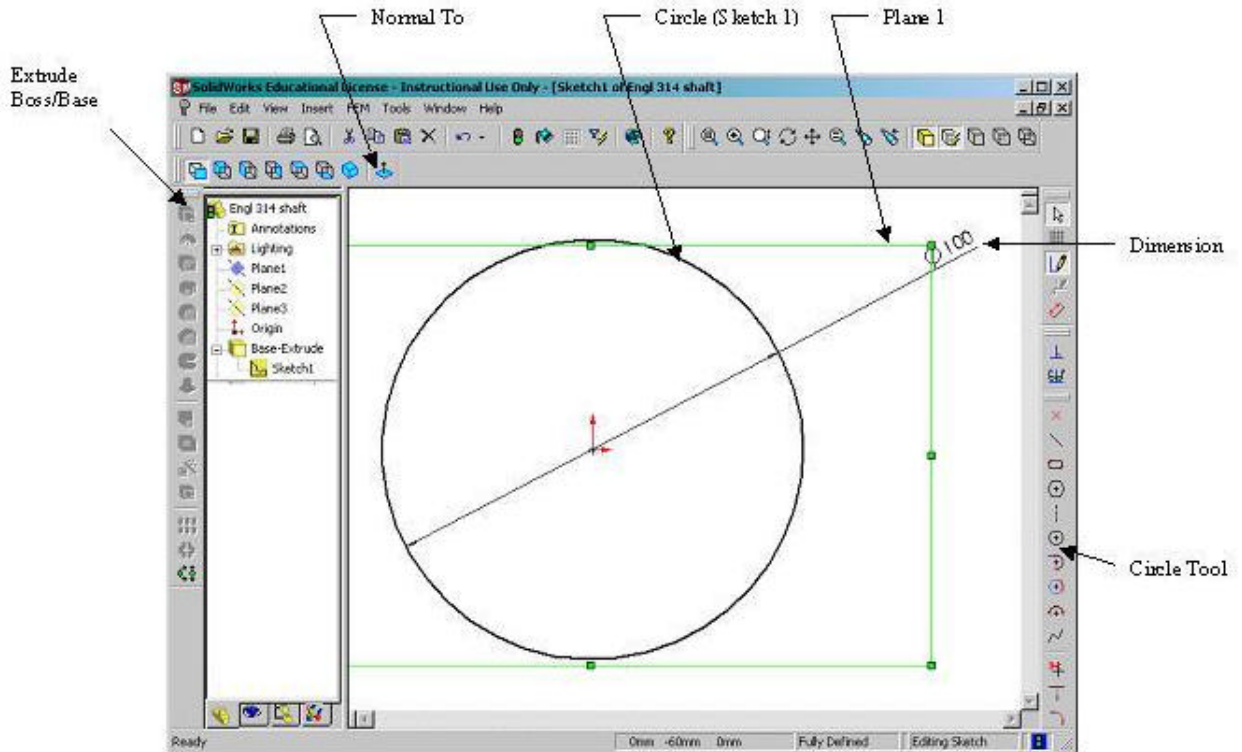

Figure 1.3
17. Click on the end surface of the tube closest to the viewer. To ensure you are selecting a surface, a white flag will appear. The surface should turn green when selected. Then click the **Normal To** Button (Refer to Figure 1.3) followed by the **Sketch** Button.